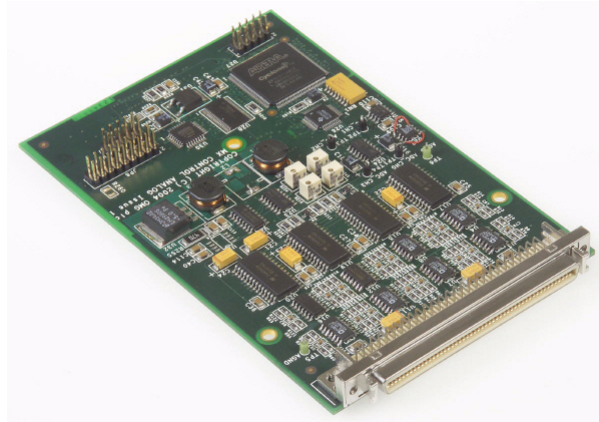

Figure A-5: Analog ADC card with female mating sockets
2. Locate the female mating sockets on the new MX option card. For example, the analog ADC option card shown in Figure A-5 has 60-pin and 80-pin female mating sockets underneath the card.